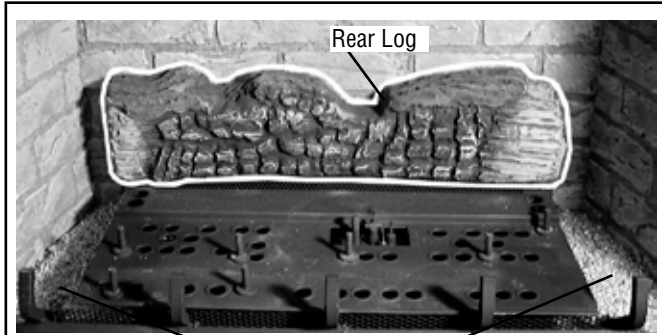

Figure 32
1. Place some vermiculite around the burner as shown in **Figure 32** (the entire bag of vermiculite will NOT be used).
2. Place the Rear Log onto the two corresponding locating pins at the back of the firebox as shown in **Figure 32**.